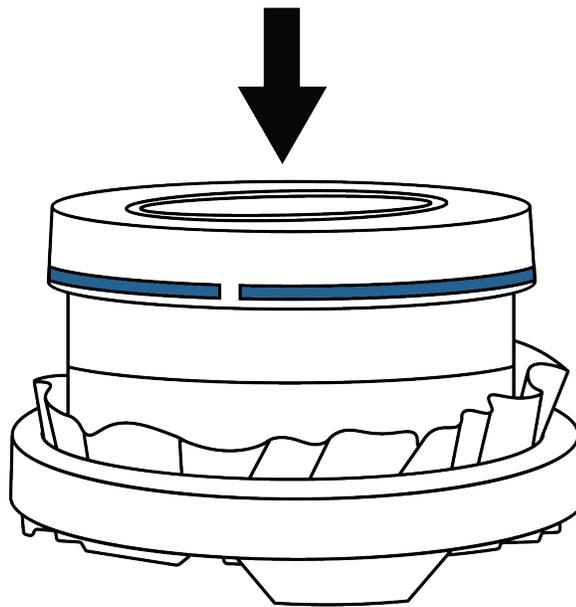

Figure 23 Place adapter on top of cutting side of sample ring
7. Put the blue-marked part of the adapter with the marking line upwards on top of the soil sampling ring (Figure 23).